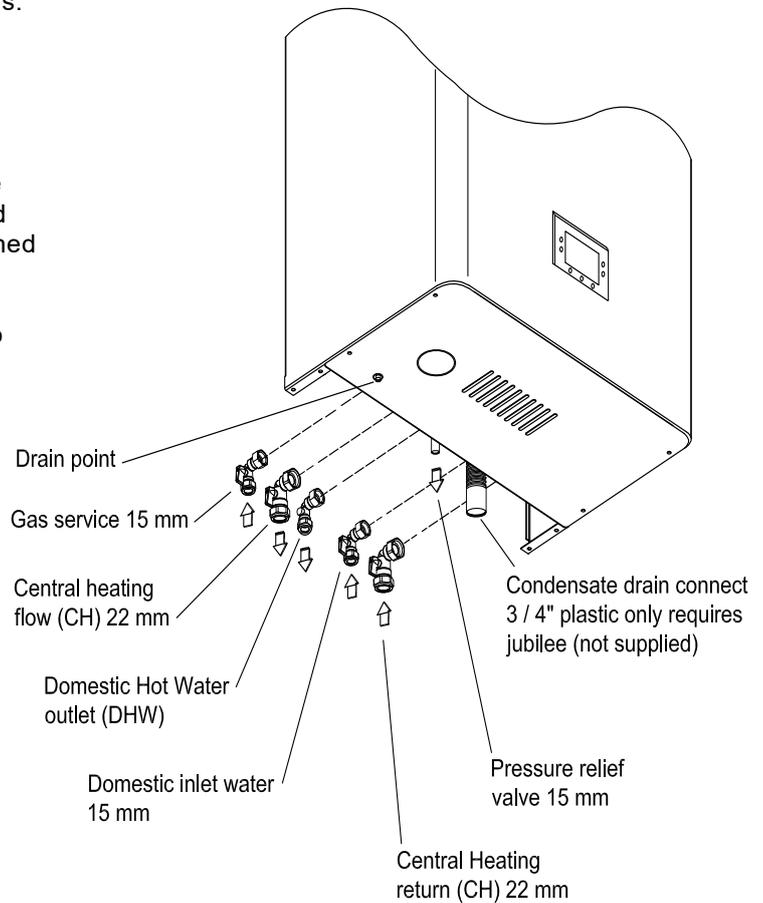

Fig.29
Remove plastic caps from boiler connection and fit valves as per fig. 29 using the washers provided.
5.21 GAS CONNECTION (Fig. 29)
5.22 CENTRAL HEATING CONNECTION (Fig. 29)
5.23 DOMESTIC HOT WATER CONNECTION (Fig. 29)
The condensate drain connection is a flexible 3/4" pipe and is therefore adjustable Fig. 29.